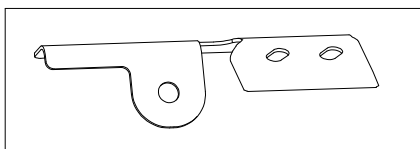

Figure B1: Truck frame cross member wiring bracket.
1. **Detach wiring harness bracket.** Locate the metal wiring harness bracket on the rear frame cross member, as shown in Figure B1. Remove the 6mm bolt holding the bracket to the frame. Carefully cut the two plastic ratchet plug fasteners to remove the bracket from the wiring and discard the bracket.